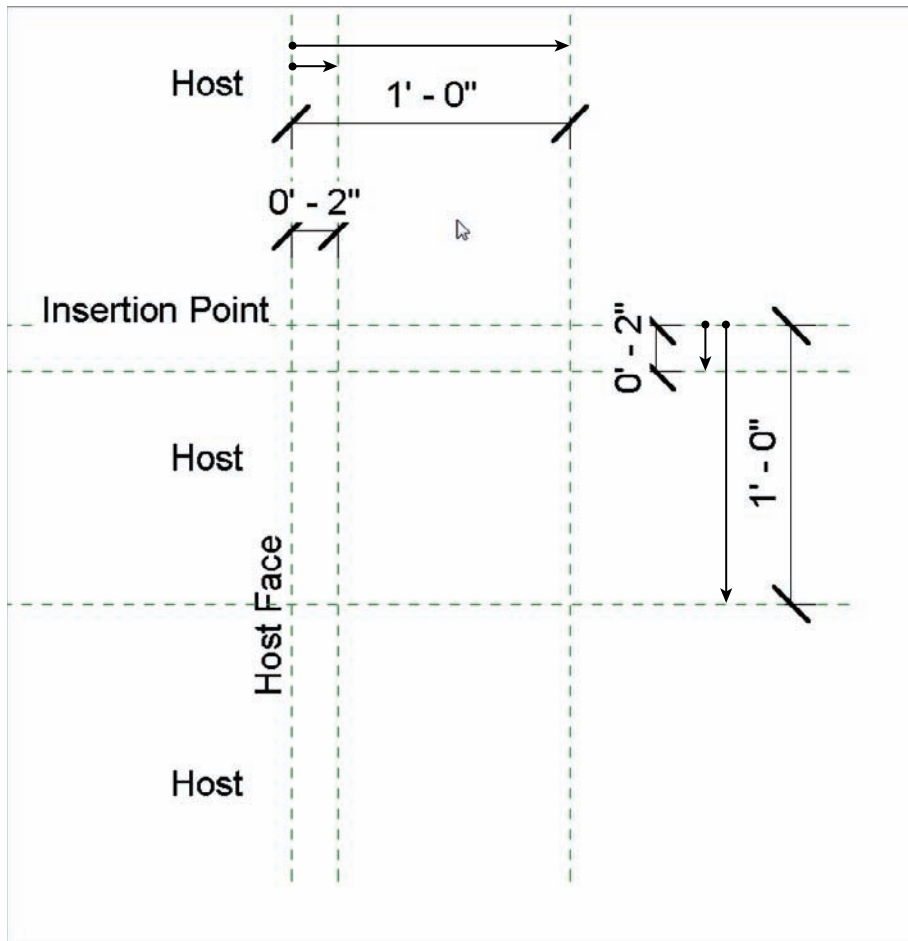

FIGURE 17.5 Adding the dimensions to the reference planes
5. Add a dimension from the top reference plane to the reference plane 2" (50mm) down (see Figure 17.5).